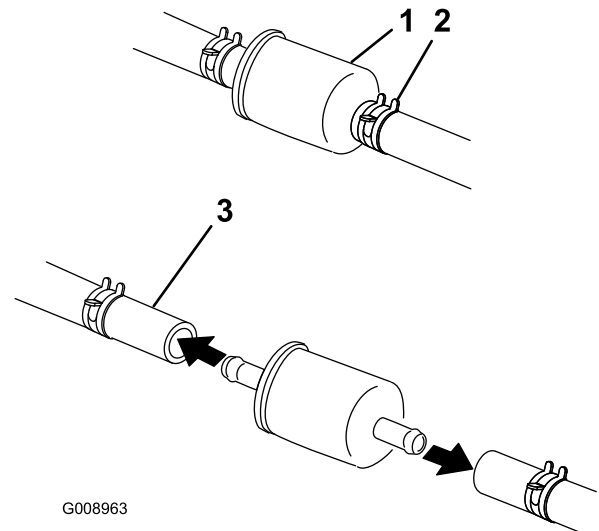

Figure 60
5. Close the fuel shutoff valve under the seat (Figure 60).
6. Squeeze the ends of the hose clamps together and slide them away from the filter (Figure 60).
8. Install a new filter and move the hose clamps close to the filter (Figure 60).